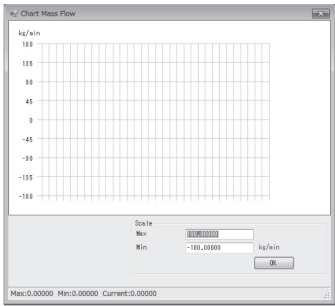

Fig.23
- ③ Click the "Mass Flow" button on the toolbar or "Chart and Recording" – "Chart" – "Mass Flow" in the menu to open the window shown in Figure 23 and display the Mass Flow chart. To change the scale of the vertical axis, enter the desired values on "Max" and "Min" under "Scale", then click "OK".